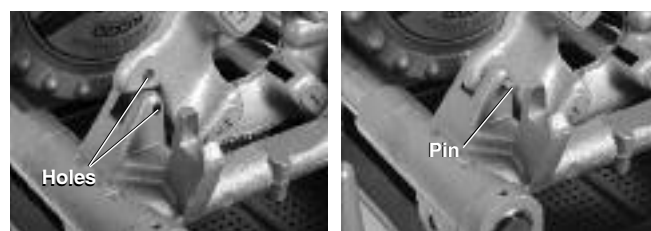

Figure 26 – Retaining LH Die Head in Place
2. Place a $\frac{5}{16}$ " pin 2" long through the holes in carriage rest and left hand die head to retain in place (see Figure 26).